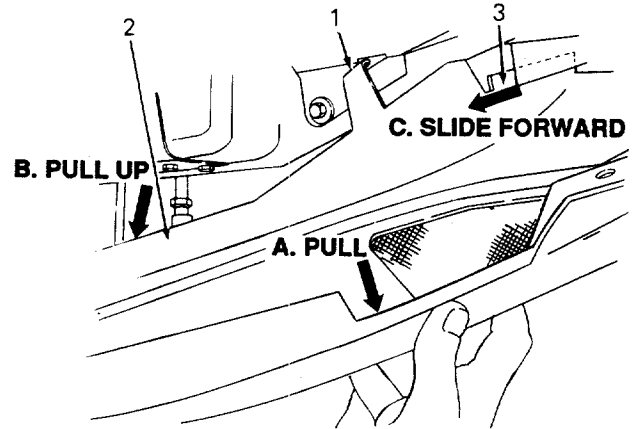

Figure 18
To remove lock tab, (A) gently pull front of side panel towards you and (B) pull up. Then (C) slide side panel forward to disengage dash panel lock. (Refer to Figure 18.)